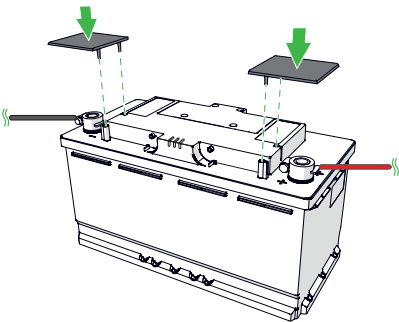

Figure 9.
5. Place the accessory caps over the terminals. (Figure 9)